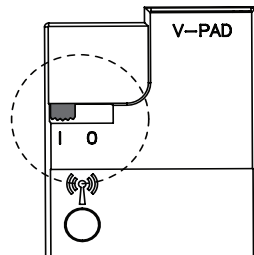

Figure 1 - Back of unit
2. Move the battery switch from 0 to I (see *figure 1*). The LEDs on the front of the Deaf and Hard of Hearing Module will light up in the following sequence: Fire (Red), CO (Red), and the status indicator will flash Red-Blue-Green.